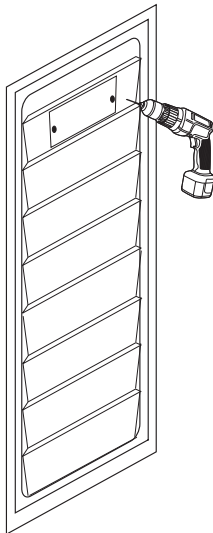

fig.2
2. On the marked hole locations, drill out two holes using dia. 3/16" (5mm) drill bit as shown in fig.2. These holes will be used to attach the ventilation cover with the **ventilation cover pins (VCP)**.